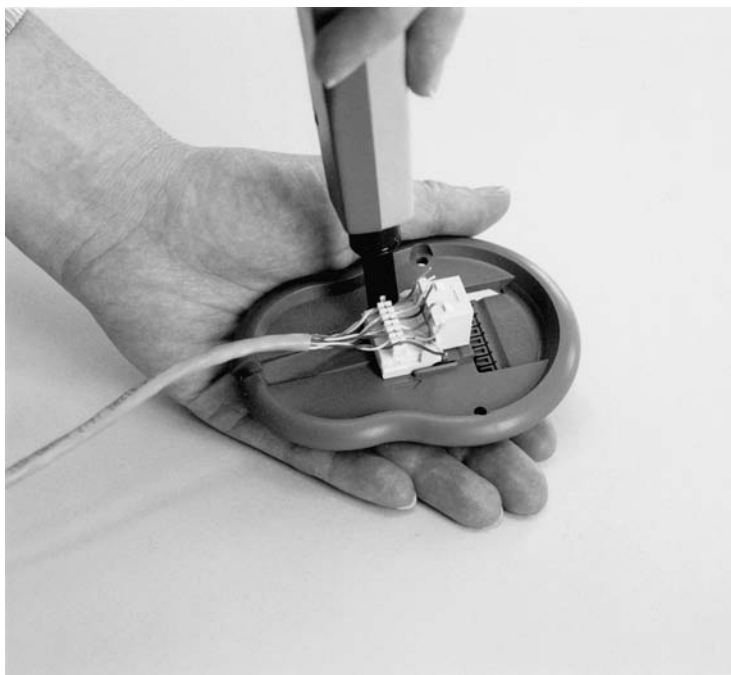

Figure 10–17. Special holders make punching down jacks much easier.
3. Place the jack in the special fixture (Figure 10–17) to hold it securely.